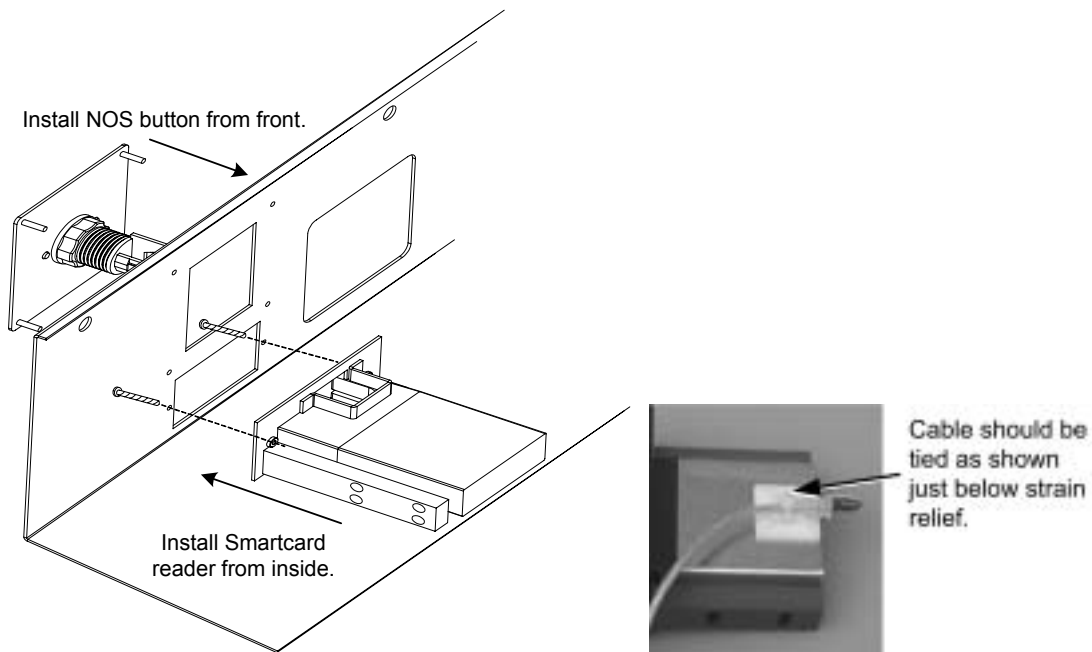

Figure 17. NOS Button and SmartCard Reader Installation (Deluxe Cabinet)
1. Refer to Figure 17 on page 21, and install the SmartCard reader from inside the control panel. Insert two (2) Torx bolts with flat washers through the front of the control panel to secure the SmartCard reader assembly in place. Make sure the SmartCard reader is installed with the LEDs upward.